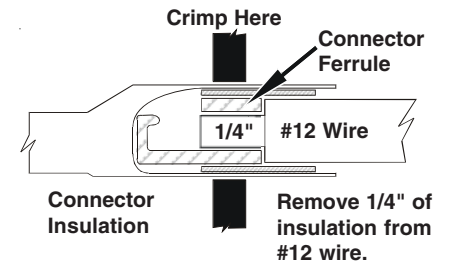
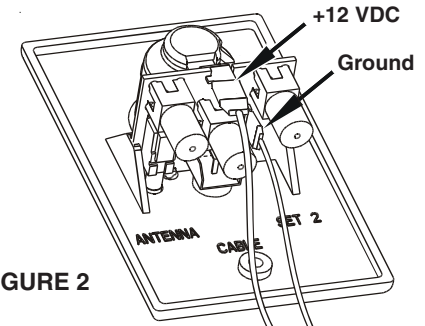
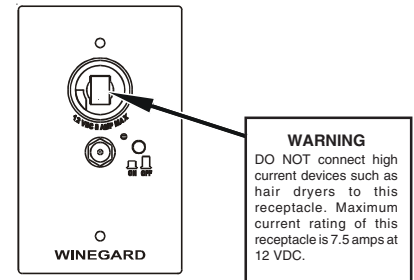

FIGURE 1
FIGURE 2
FIGURE 3
STEP 4. Install terminals on wires from +12 VDC source as shown in Figure 1. Crimp terminals with Craftsman type 4 crimping tool or equivalent. See Figure 1. Push wires onto tabs on terminal board as shown in Figure 2. If in doubt as to the polarity of the wires, connect them temporarily to tabs on circuit board and press switch on front of outlet. If light comes on polarity is correct. See Figure 3.